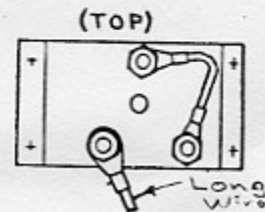

Fig. 5 - Power Disconnect-Rear View
11. Thread long wire through undercarriage harness tubing into lower control cabinet and connect to rear of Power Disconnect Switch with existing wires numbered "2" as shown in Figure 5 . Dress wire into harness using wire ties and keep wires clear of steering gear.
8. Connect long wire of receptacle to rear of Power Disconnect Switch with existing wires numbered "2" as shown in Figure 5 .